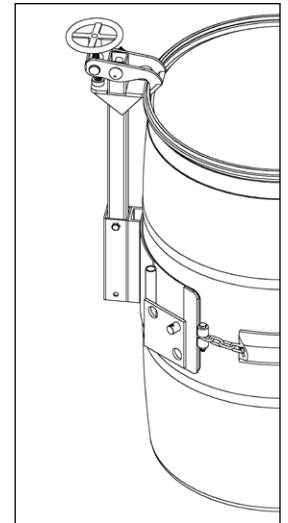

Figure 2.2
- The **Top Rim Clamp** (Part # 4560-P) grips the upper rim of your drum to prevent it from slipping through the drum holder (see figure 2.2). To handle a 55-gallon (208 liter) plastic drum with top rim, you **must** install either the Bracket Assembly or the Top Rim Clamp. You can use the Top Rim Clamp with a 55-gallon plastic, steel or fiber drum with suitable top rim.